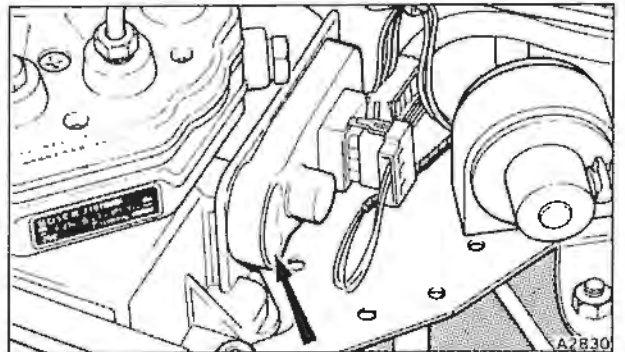

Fig. B4-16 Air flow sensor potentiometer
**Air flow sensor potentiometer** (see fig. B4-16)